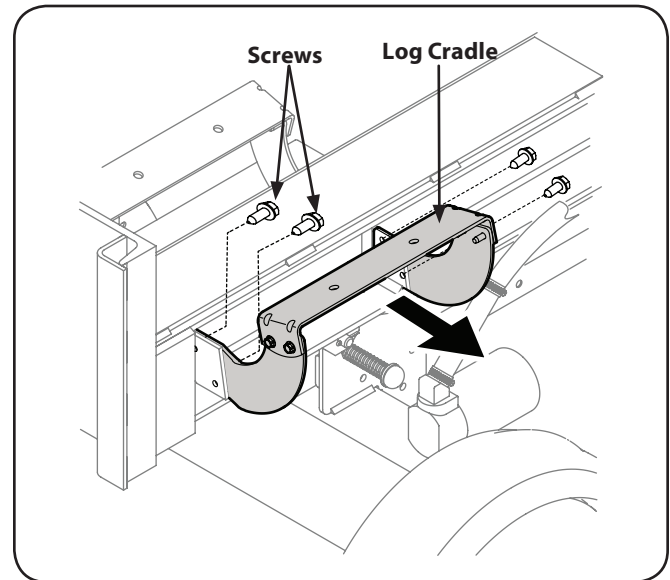

Figure 3-5
3. Disconnect the log cradle from the beam on the side of the control valve. See Fig. 3-5.